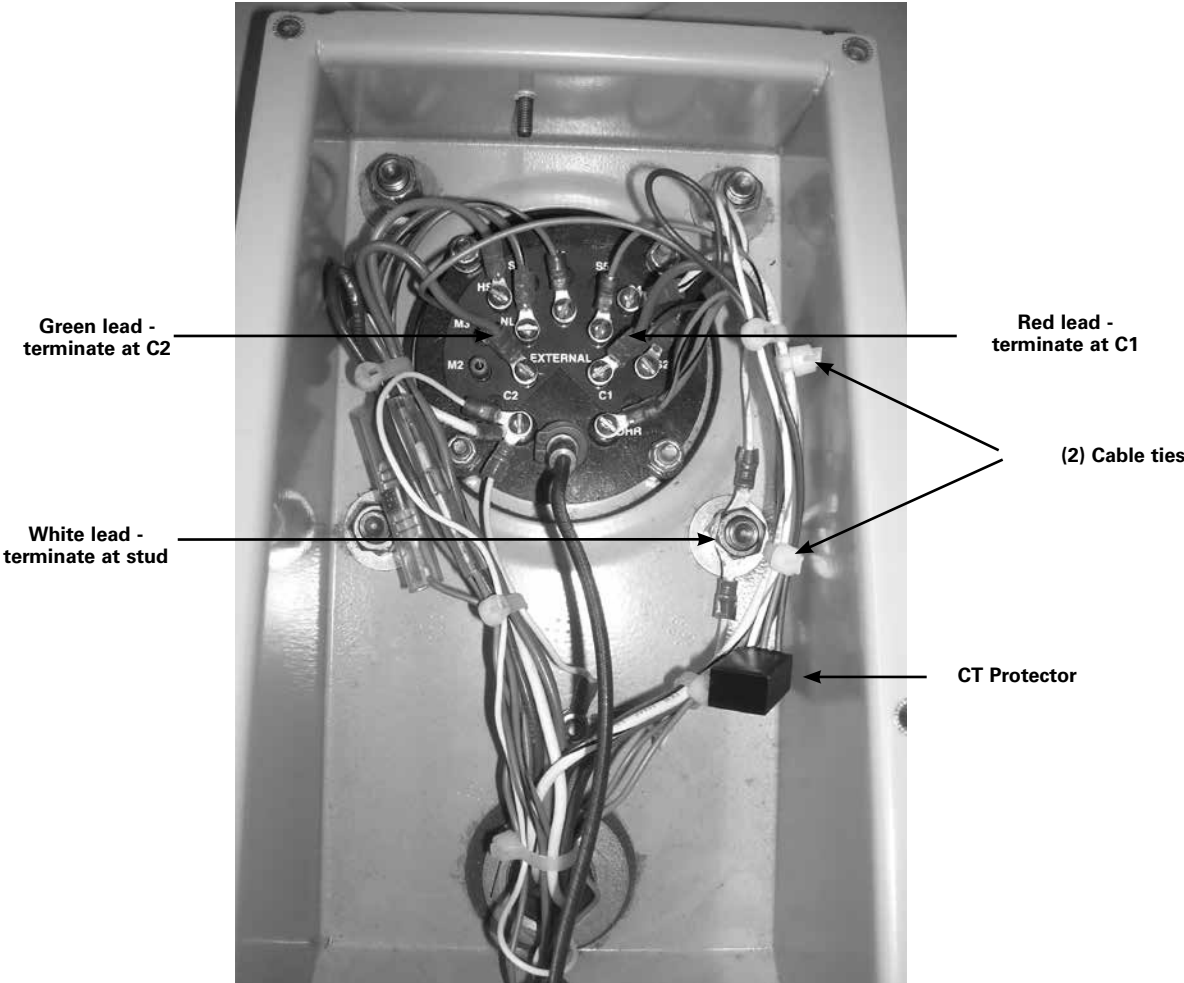

Figure 3. CT protector installed in junction box
6. Secure CT protector to existing wiring as shown in figure 3 using cable tie. Verify that wires are clear of the drive shaft.